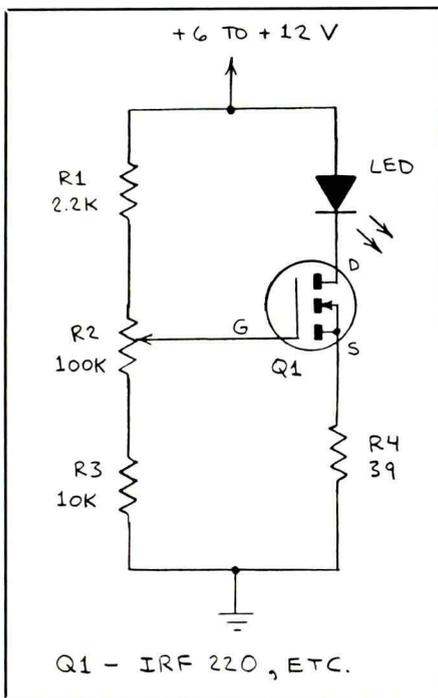

Fig. 6. Power MOSFET variable resistor.
Figure 6 shows a simple circuit that permits current flow through a LED to be controlled by means of a power MOSFET. The resistance of the drain-source channel is determined by the voltage at the MOSFET's gate. This voltage is determined by the voltage divider formed by  $R_1$ ,  $R_2$  and  $R_3$ .
When you look at Fig. 6, you might wonder why the MOSFET is even needed. Why not alter the current through the LED by placing it in series with a potentiometer? Of course, this can be done, and it will work fine in the case of a low-power device, such as a LED. However, you will need an expensive high-power potenti-
ometer if the LED is replaced by a high-current load, such as an incandescent lamp or dc motor. The advantage of the MOSFET circuit in Fig. 6 is that it permits an inexpensive potentiometer to control the current through a device that draws high power.
You can use the Fig. 6 circuit to control the brightness of an incandescent lamp or speed of a small dc motor. For example, I tried using the circuit to control the speed of a couple of small dc motors connected in place of the LED. One motor would not function when connected into the circuit. The other worked well, and its rotation could be easily slowed down to a few rotations per second by carefully adjusting  $R_2$ . There's a better way of controlling the speed of a motor with a power MOSFET and is described next.
- **Motor Speed Controller.** The circuit shown in Fig. 6 controls the speed of a motor by altering the available current. This circuit alters the speed of a motor by applying a stream of fixed-amplitude current pulses to the motor at a variable rate. When the pulses are applied at a slow rate, the motor's shaft turns slowly. Rotation rate increases as pulse rate is increased. Since the current during each pulse is constant, this method provides more power to the motor, even when the rotation rate is very low.